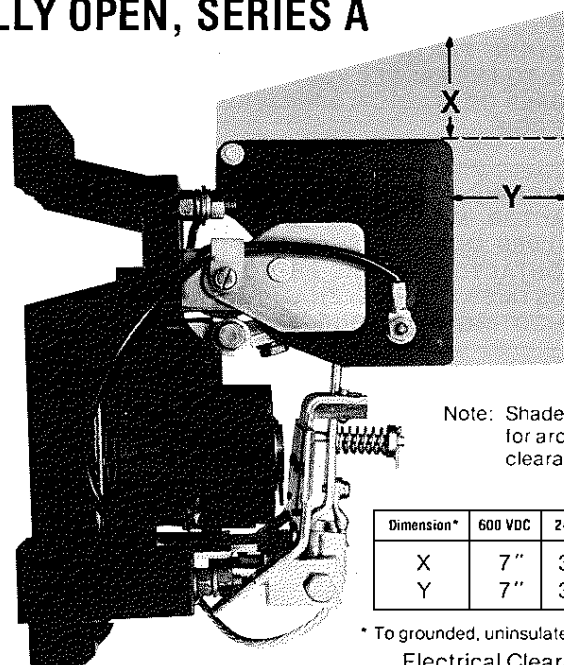
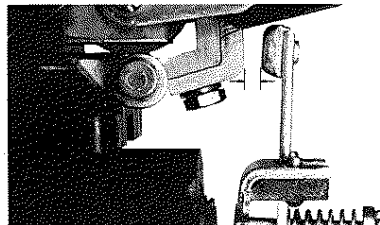

Figure 1
Figure 4
2. Check nameplate data for correct equipment. Check that the contactor operating coil (32) is the correct voltage.
4. Mount the contactor vertically on a rigid support and fasten down tightly using a plain washer against the contactor base. Provide the clearance shown in Fig. 1 above the top of the contactor and in front of the arc chute for pivoting or removal of the arc chute and for electrical clearances.
- Hold the contact arm of the left contactor fully closed and push closed the contact arm of the right contactor until stopped by the mechanical interlock. With new contact tips, check that there is a gap of at least 3/16" but not more than 1/4" between the contact tips (Fig. 4).
- Contact arm gap is factory adjusted. Do not change the setting of the adjusting screw (27)
- Should the setting be inadvertently changed, readjust the contact arm gap by turning the adjusting screw (27) located on the bottom of the contact arm (Fig.1) until a contact tip gap of 5/16" is achieved (Fig. 4)
- Retighten the locking nut (28) which holds the adjusting screw.